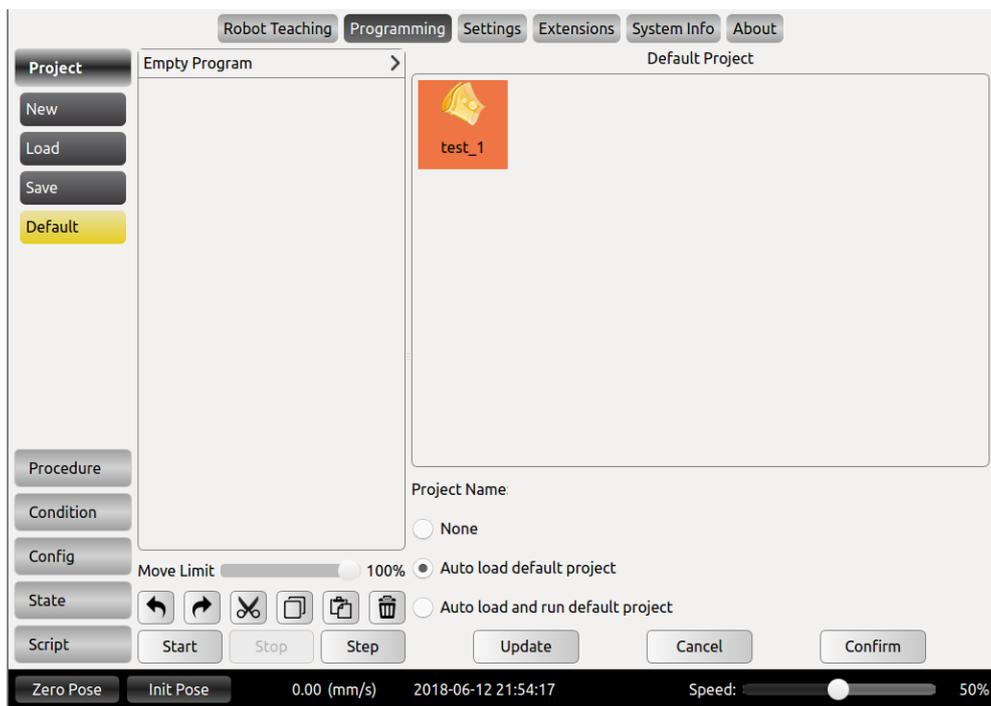

Figure 11-7 Default Project
- Manually move mode can be used when auto move is not suitable. As shown in figure 11.7, manipulator will hit working plane or barriers when moving from C to A under auto move. In this case, manually move can be used to move to safe point (like B) firstly, then move to the